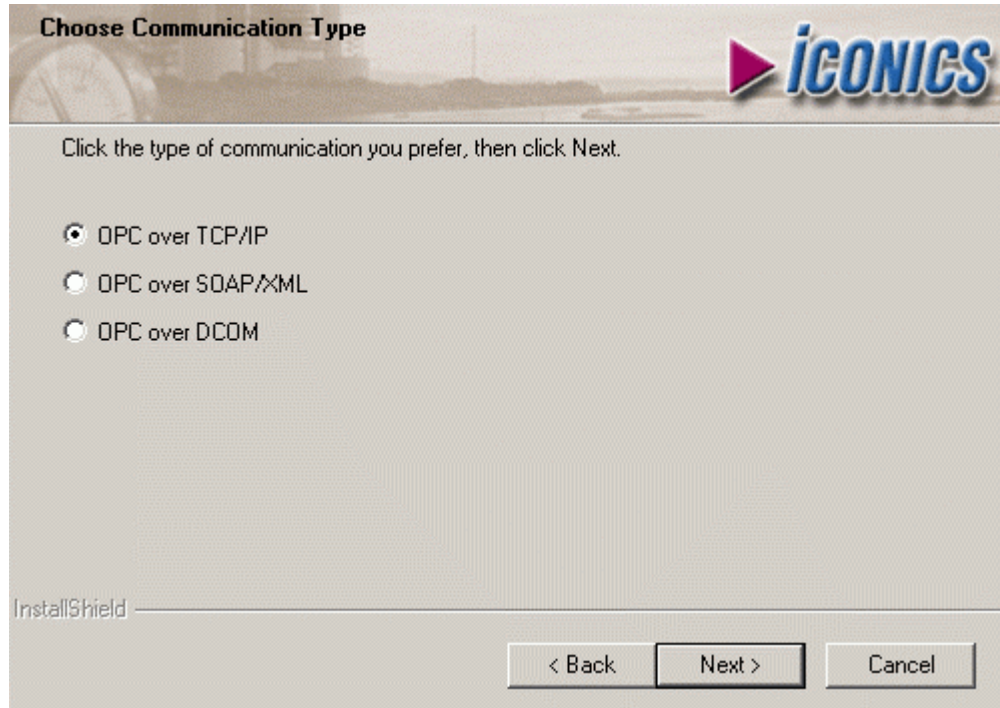

Figure 2.13. Choosing a Communication Type
7. The **Choose Communication Type** dialog box will appear, as shown in **Figure 2.13**. Choose **OPC over TCP/IP**, **OPC over DCOM**, or **OPC over SOAP/XML** for installation.